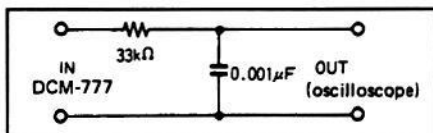

Figure 5. Connect the oscilloscope to the CD player through this filter network for making all adjustments, except where directed otherwise.
- Filter network for measurement (see Figure 5)